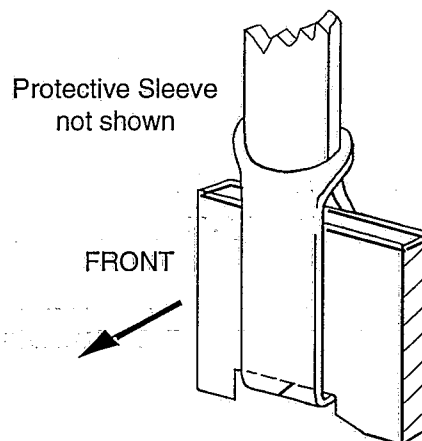

Fig. 1A
1. Position sling complete with protective sleeve into cutaway at the bottom of the first angled web nearest to the headstock. (Fig.1A)